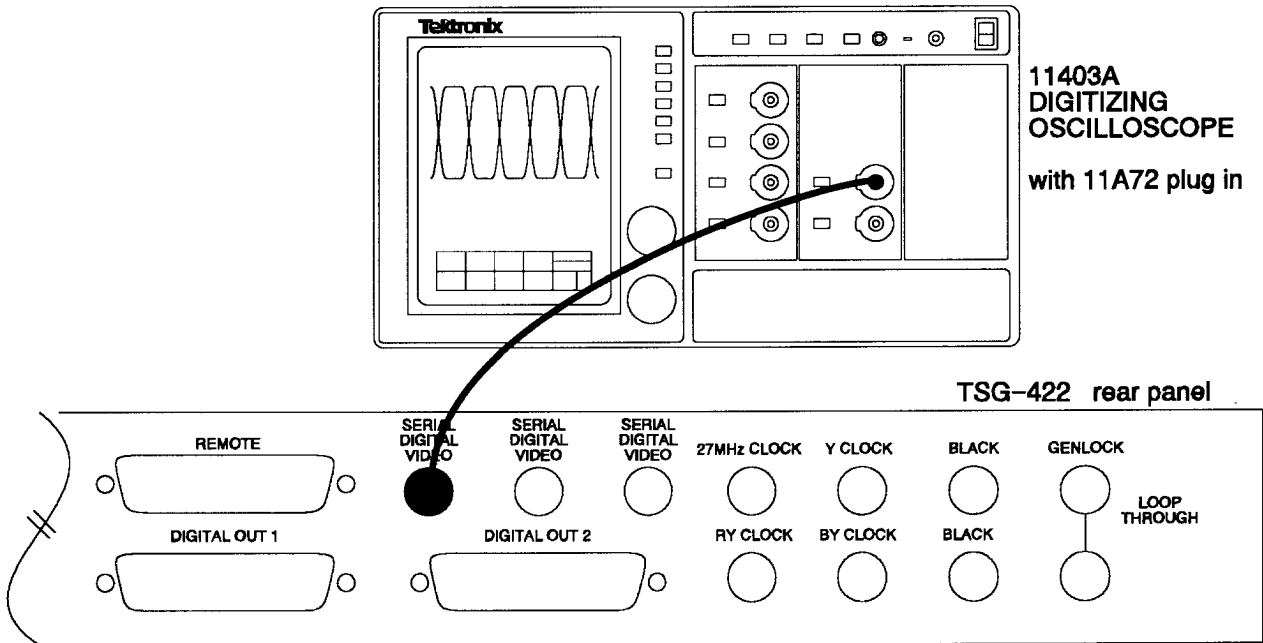

Fig. 5-14. Setup to check the Serial Digital Output Amplitude, Rise & Fall Times, Overshoot & Undershoot, and DC Level.
- a. Connect the equipment as shown in Fig. 5-14.